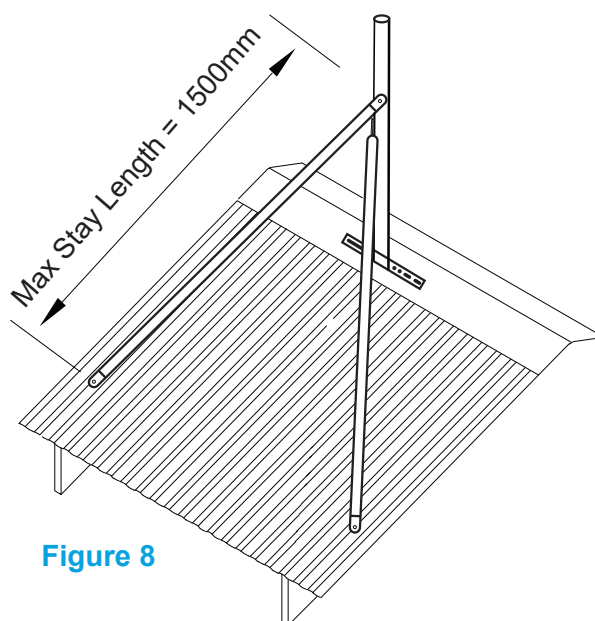

Figure 8
- The mount has been designed for roofs with the stays running down the slope (see Figure 8).